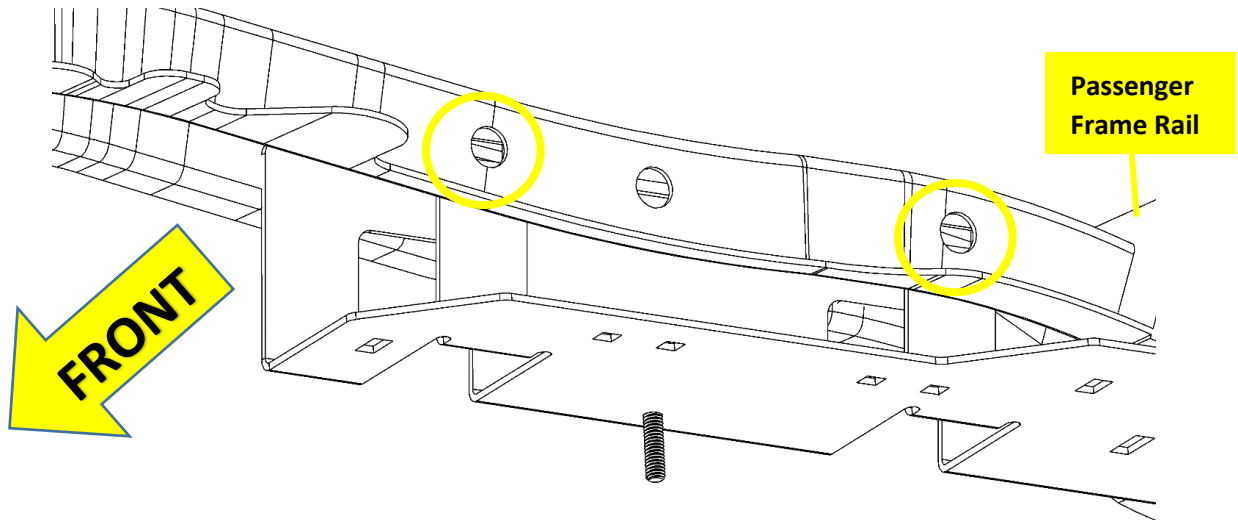

Figure 12 - TUNDRA-301 Mounting Locations
10.3.1. Locate 2 holes on rear facing side of crossmember, as shown circled in Figure 12 below.